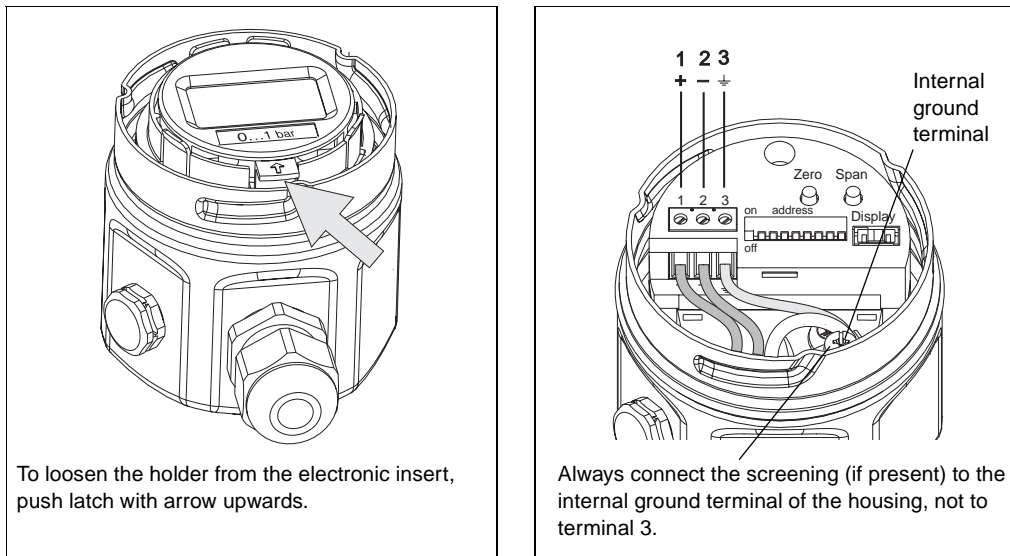

fig. 2.9: left: Lifting off the display and removing the retaining ring
- Connect cable cores as shown in figure 2.9. Reversed polarity has no effect on operation.
Terminal 3 on the electronic insert is for grounding and is already wired internally. If the connection cable has a screening cable within it, then this may only be connected to the grounding terminal of the housing and not to terminal 3. The terminals are designed to take one wire each. See fig. 2.9.